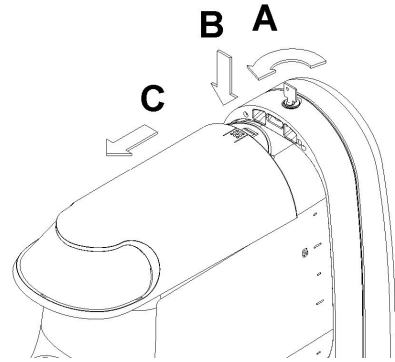

figure 7
- 1 To remove the lid of the container, press the top button and slide the lid towards the front of the container. If there is a safety lock for the lid, turn the key in an counter-clockwise direction to release the open button (see figure 7).